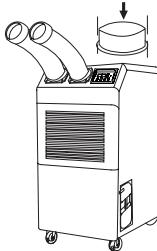

Figure 6
3. Use screws (enclosed inside of box with the top fan exhaust flange) to install the top fan exhaust flange on the unit as shown in Figure 6.